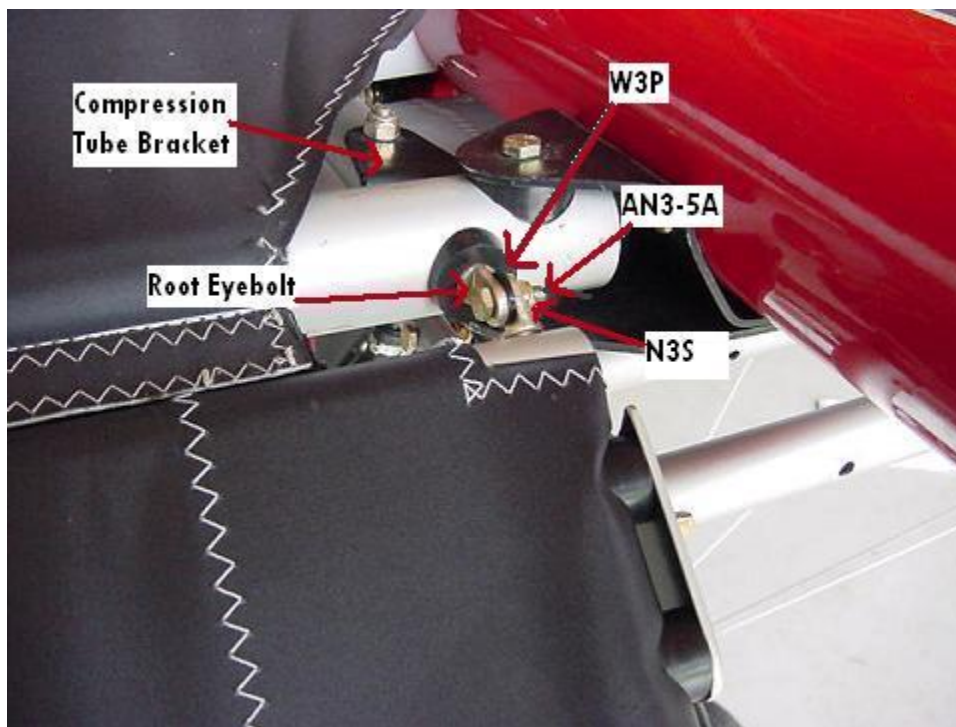

Figure 4 – Root Eyebolt Configuration
- 8) Before sliding the wing sails back into place check the root eyebolt next to the keel tube. If it does not have an S01-84 saddle, replace the eye bolt with an AN43B-25A eyebolt at this time. Refer to Figure 4. Some aircraft will not have a root compression tube. It is only required if using the folding wing option.